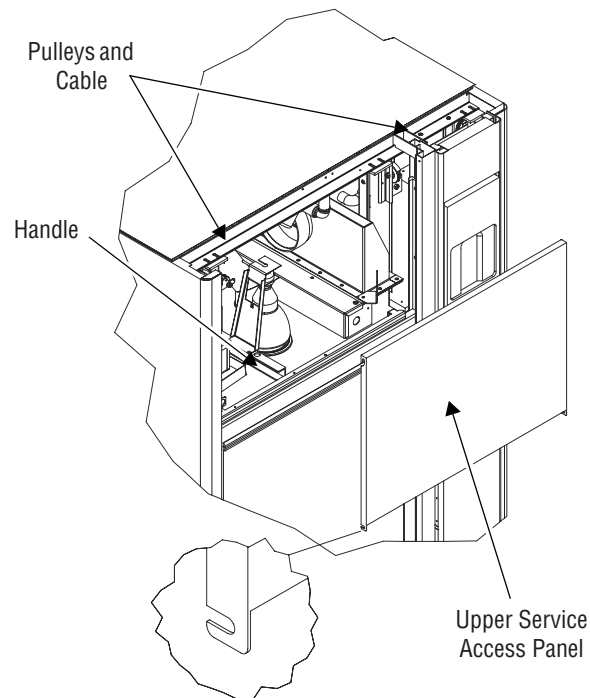

Figure 4-9. Power Door Operation During a Power Failure
1. Loosen screws from bottom right and left hand corners (see Figure 4-9) of upper service access panel(s).
- b. Lift door using handle located at top of door (see Figure 4-9).